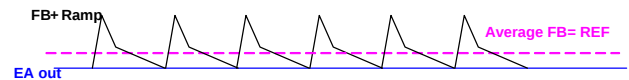

Figure 4: DCM Control
When the MP1605 is in sleep mode, the average output voltage is higher than the internal reference voltage. The EAO is kept low and clamped in sleep mode. When the load increases, the PWM switching period decreases to keep the output voltage regulated, and the output voltage ripple decreases relatively. Once the EAO is higher than the internal low threshold, the MP1605 exits sleep mode and enters DCM or CCM depending on the load. In DCM or CCM, the error amplifier (EA) regulates the average output voltage to the internal reference (see Figure 4).